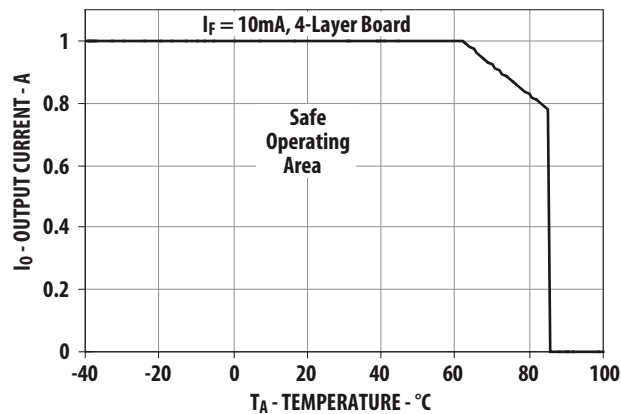

Figure 1. Maximum Output Current Rating vs Ambient Temperature (ASSR-1510-003E)
- For derating, refer to Figure 1, 2, 3 and 4.
Derating curves are shown in Figures 1, 2, 3 and 4, specifying the maximum output current allowable for a given ambient temperature. The maximum allowable output current and power dissipation are related by the expression  $R_{ss}=P_o(max)/(I_o(max))^2$  from which  $R_{ss}$  can be calculated. Staying within the safe area assures that the steady state MOSFET junction temperature remains less than  $125^{\circ}C$ .